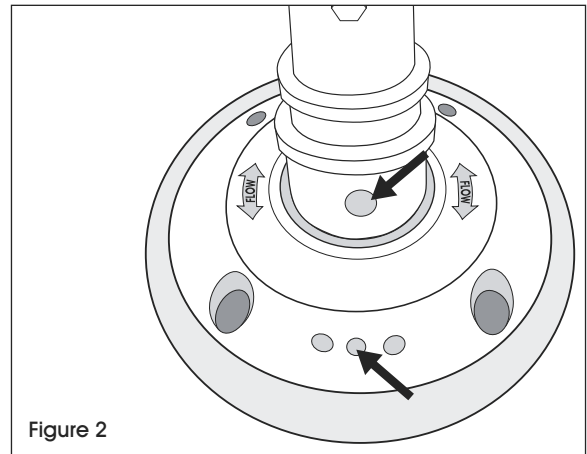

Figure 2
5. Align the hole in the post with the middle hole in the base and insert the post. (See Figure 2)